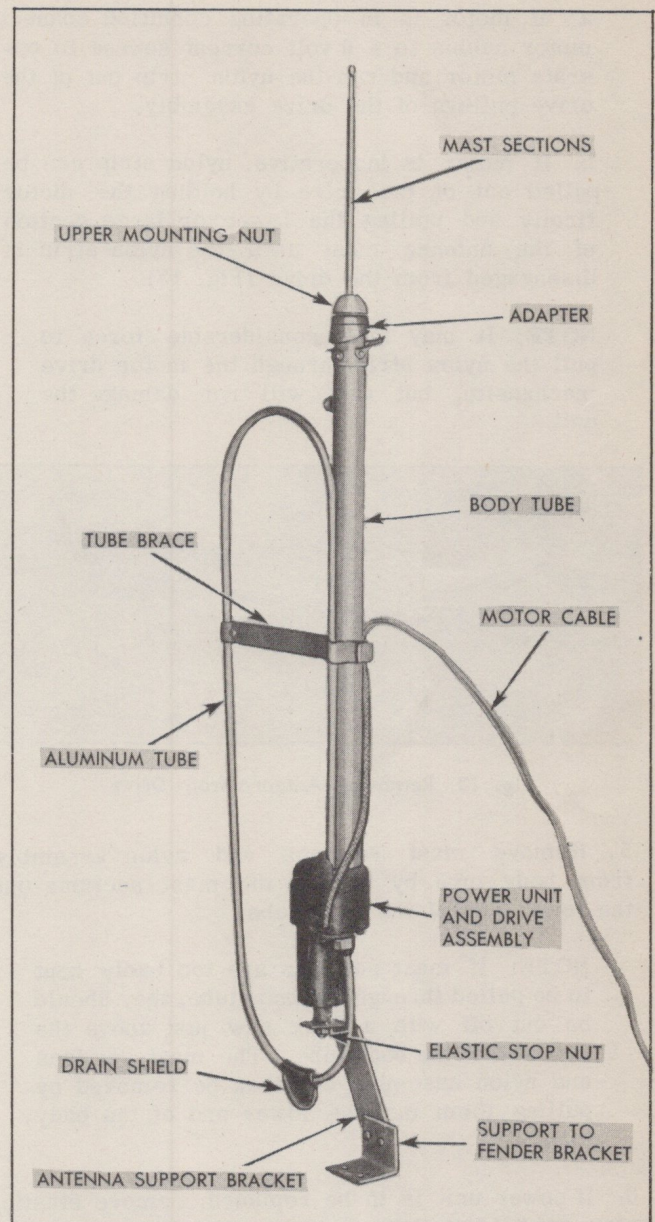

Fig. 11 Part Nomenclature for New Antenna
4. Remove upper mounting nut with spanner wrench J-5185-1 and remove bakelight adapter (Fig. 11).
4. Inspect aluminum tube to make sure it is free of any obstruction due to mutilation or broken nylon strip. Check hole in drain shield on aluminum tube to be certain it is open. Insert nylon strip in tube, position tube on antenna assembly as shown in Fig. 11 and fasten aluminum tube to motor attaching nut.
5. Install tube brace on aluminum tube so that tube is clamped on one side of body tube and motor cable on opposite side as shown in Fig. 11.